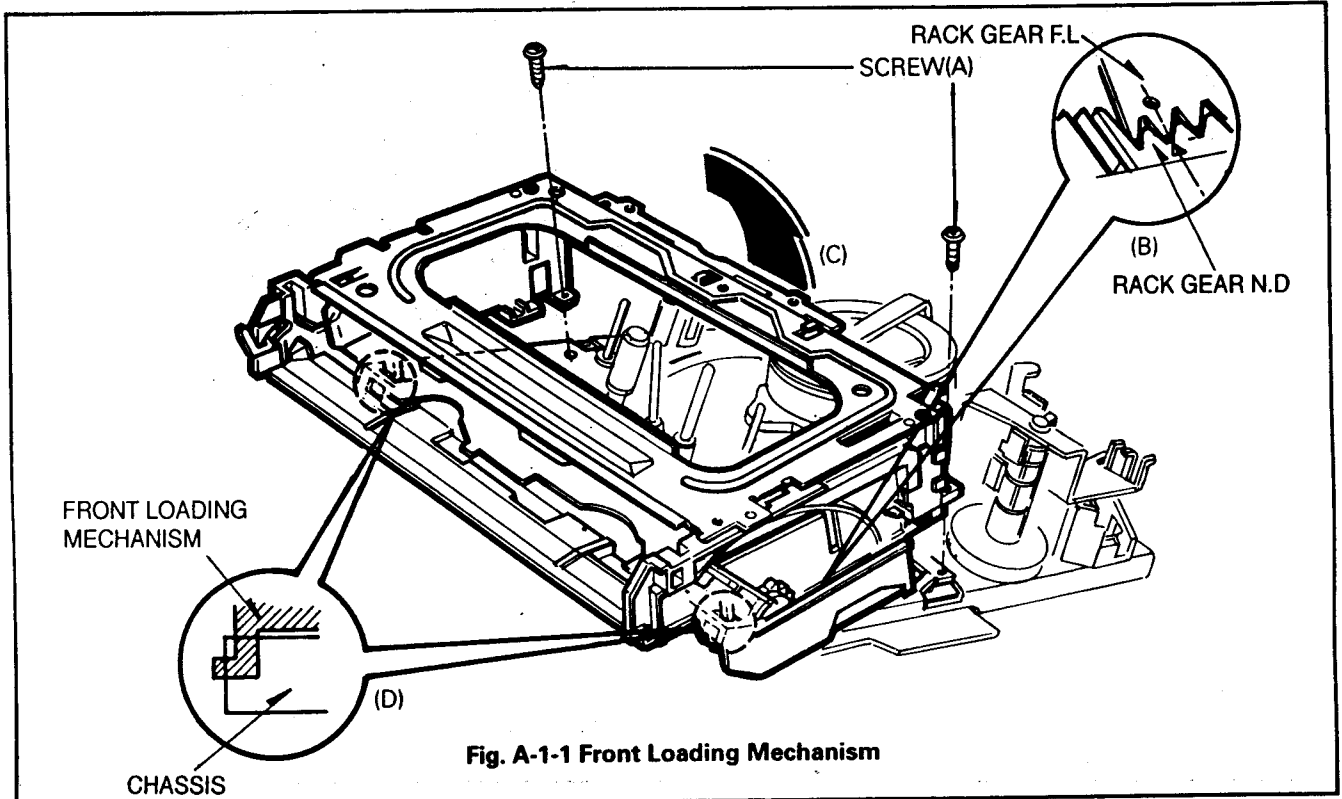
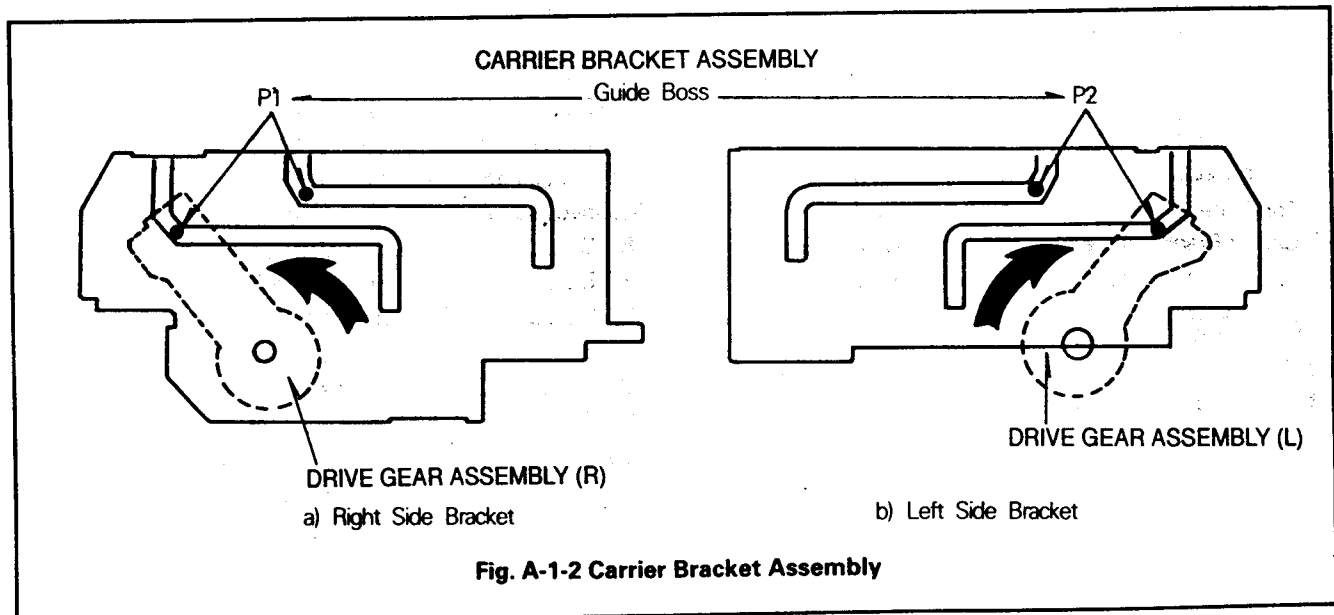

Fig. A-1-1 Front Loading Mechanism
Fig. A-1-2 Carrier Bracket Assembly
1. Front Loading Mechanism Assembly (Fig. A-1-1)
- ① Give special attention to removal. because two tabs(D) are engaged.
- ② Make sure that Bosses of Bracket(L),(R) are properly engaged in the holes of the chassis.
- ③ To reassemble Front Loading Mechanism, the Drive Gear Assembly should be turned in a counterclockwise as shown in Fig. A-1-2 so that the Rack Gear N.D of Front Loading Mechanism Assembly is meshed into Rack Gear F.L of Deck Mechanism Assembly correctly as shown in Fig. A-1-1.(B).